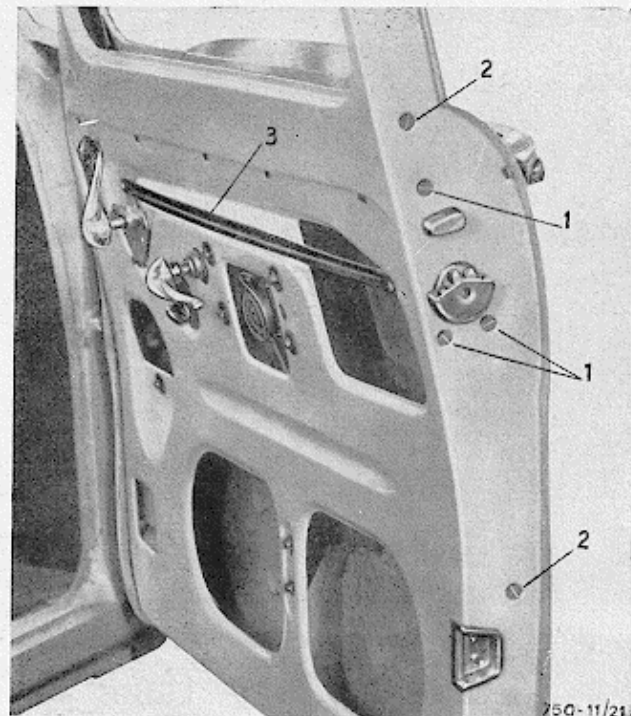

Fig. 20 - Removing a front-door lock
- remove the three screws **1** (Fig. 20) which secure the lock and the two screws **2** which secure the window guides;